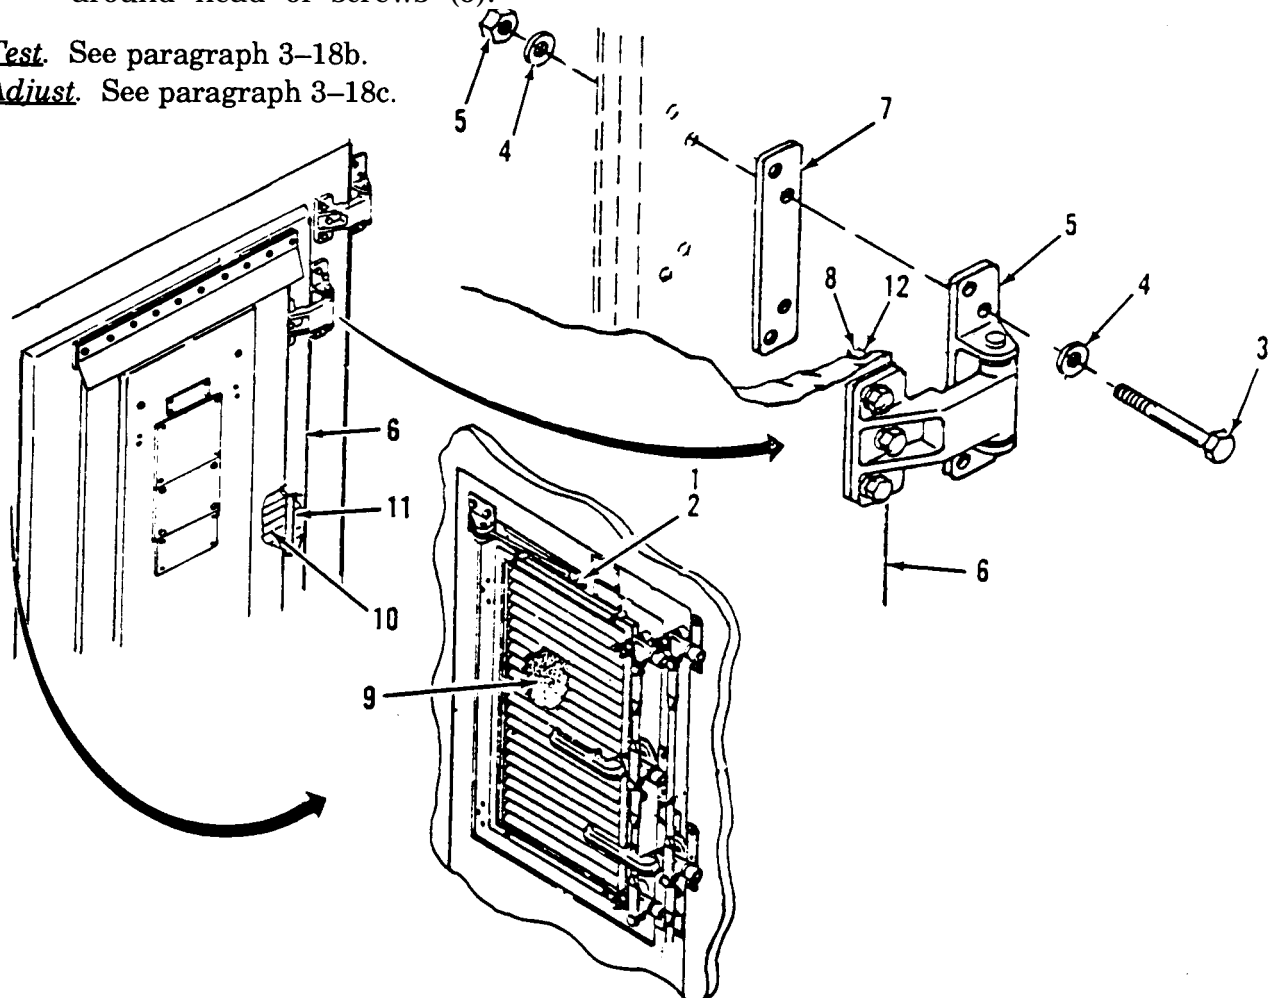

Figure 3-25. Inner Door Assembly Replacement.
*a . Inspect* (Figure 3-25)
- (1) Inspect the inner door assembly (6) for external damage.
- (2) Inspect the silicone weather gasket (8) for tightness.
- (3) Inspect the RFI/EMI gasket (12) on a shielded shelter.
- (4) Inspect the door for positive closing and proper operation.
- (5) Inspect the air intake falter (9) for wear and cleanliness.
- (6) Inspect louver assembly (10) and holder assembly (11) for damage and secure mounting.
*b . Remove*. (Figure 3-25)
- (1) Remove and retain three phillips head screws (1) attaching door stay channel (2) to door panel, and pull channel away from door panel.
- (2) Remove and retain four nuts (5), lock washers (4) and hex-head screws (3) attaching each of the two hinges to outer door panel.
- (3) Remove inner door assembly (6) and two hinge spacers (7).